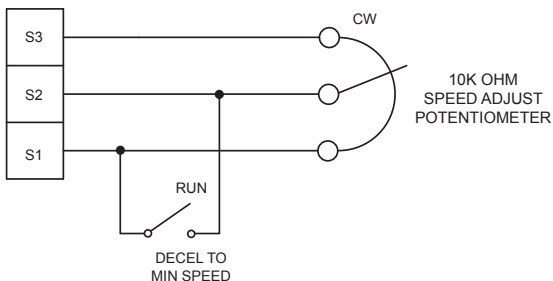

Figure 8. Run/Decelerate to Minimum Speed Switch
**Minarik Drives strongly recommends the installation of a master power switch in the voltage input line, as shown in Figure 8 (page 16).** The switch contacts should be rated at a minimum of 200% of motor nameplate current and 250 volts. This power switch is provided with NEMA 1 and NEMA 4X models.
The switch shown in Figure 8 may be used to decelerate a motor to a minimum speed. Closing the switch between S1 and S2 decelerates the motor from set speed to a minimum speed determined by the MIN SPD trim pot setting. If the MIN SPD trim pot is set full CCW, the motor decelerates to zero speed when the switch between S1 and S2 is closed. The DECEL trim pot setting determines the rate at which the drive decelerates. By opening the switch, the motor accelerates to set speed at a rate determined by the ACCEL trim pot setting.